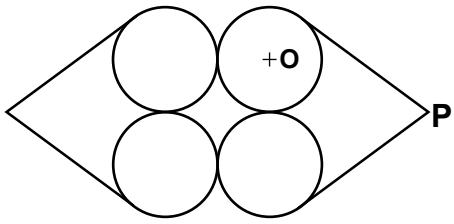

Fig. 3(a)
- 3 Fig. 3(a) shows a logo of a kindergarten school. Fig. 3(b) shows an incomplete drawing of the logo.